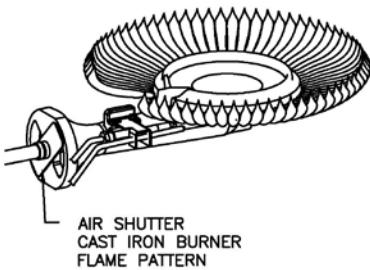

Figure 10
**Cast Iron Burner:** At the time of installation and at periodic intervals (not more than 6 months), a visual check of the main burner and pilot flames should be made to determine if they are burning properly. For ideal operation, the gas and air must be properly proportioned. The proper air-gas mixture is obtained by adjusting the air shutter on the mixer face of the main burner (See Figure 10). To adjust for proper burning, loosen the air shutter nut, rotate shutter to close the opening in the burner then slowly rotate the shutter until the yellow tips disappear and the flame becomes blue. Tighten the air shutter nut. Too much air will cause the flame to lift off the burner ports and create noisy operation. Too little air will result in soot formation. The main burner flame should light smoothly from the pilot.